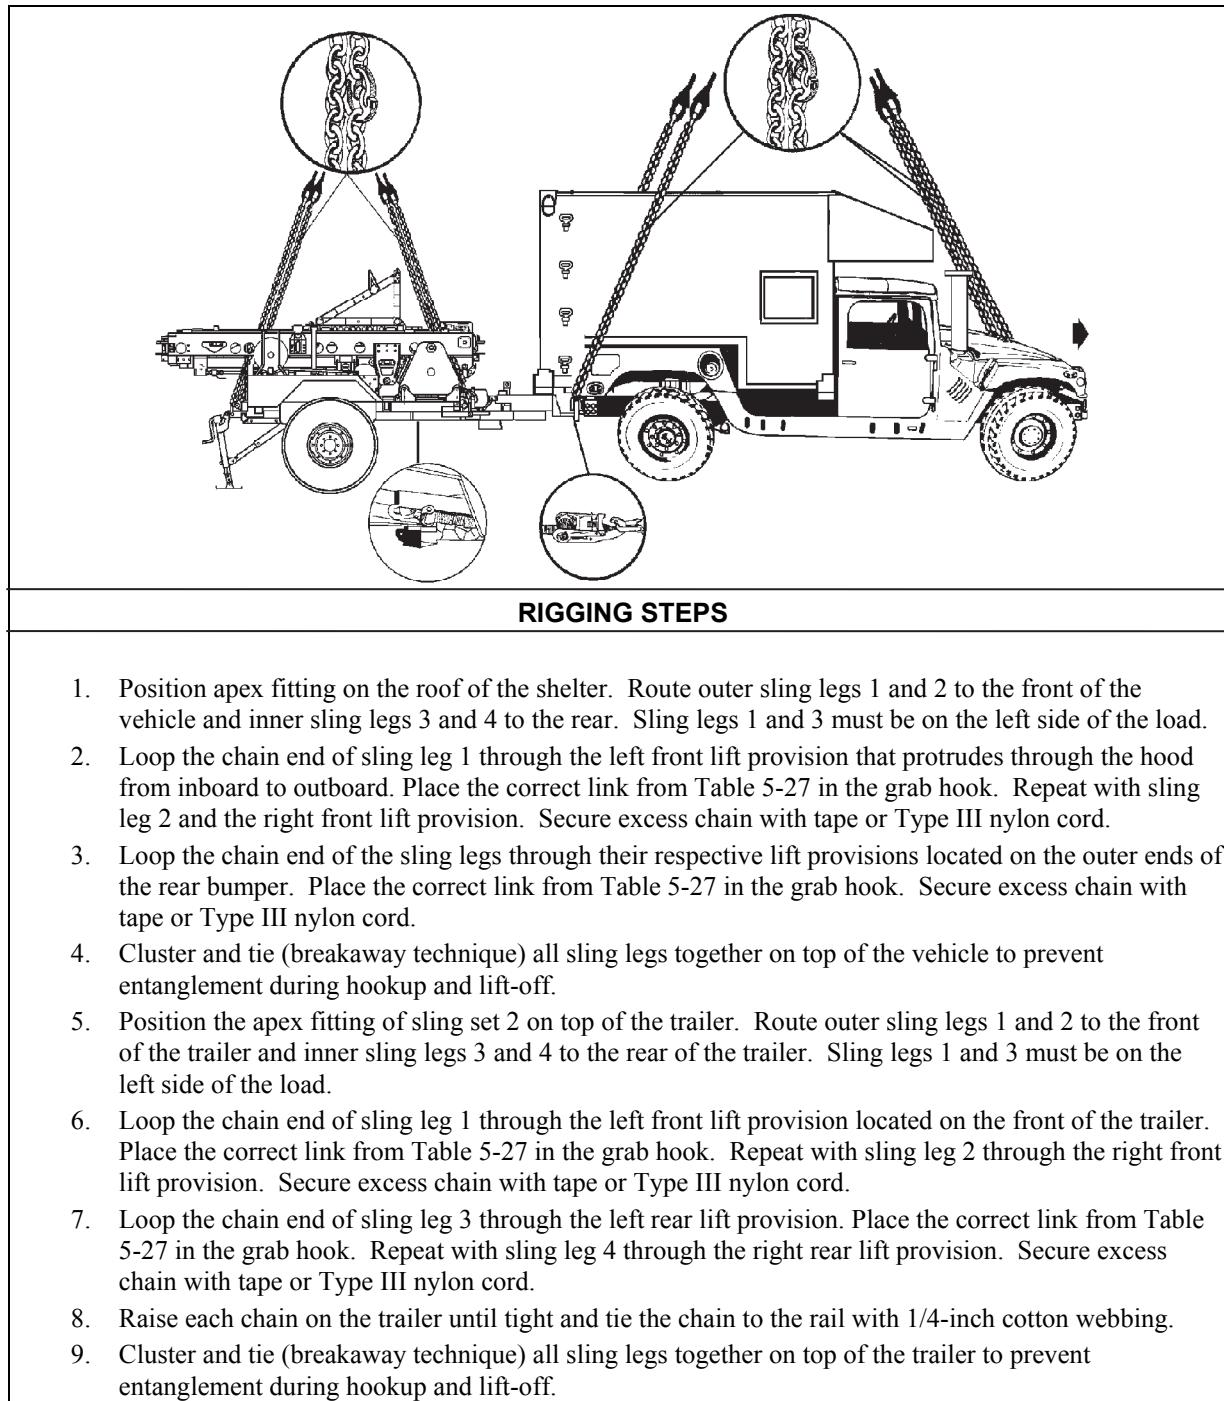

Figure 5-27. M1113 with LMS Shelter and Shadow Unmanned Aerial Vehicle Launch Recovery Trailer
- **Rigging.** Rig the load according to the steps in Figure 5-27.